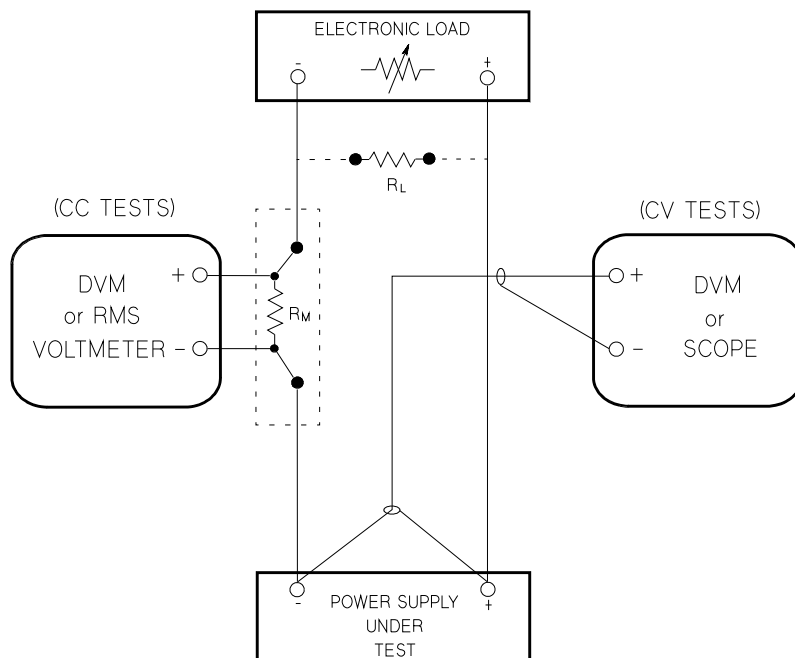

Figure 1-1 Performance verification test setup
To eliminate output current measurement error caused by the voltage drops in the leads and connections, connect the current monitoring resistor between the (–) output terminal and the load as a four-terminal device. Connect the current-monitoring leads inside the load-lead connections directly at the monitoring points on the resistor element (see R_M in Figure 1-1).
- 1 Turn off the power supply and connect a digital voltmeter between the (+) and (–) terminals of the output to be tested as shown in Figure 1-1.
- 1 Turn off the power supply and connect a digital voltmeter between the (+) and (-) terminals of the output to be tested as shown in Figure 1-1.
- 1** Turn off the power supply and connect the output to be tested as shown in Figure 1-1 to an oscilloscope (AC coupled) between (+) and (–) terminals. Set the oscilloscope to AC mode and bandwidth limit to 20 MHz. Connect a resistive load (7.5 Ω) as shown in Figure 1-1.
- 1** Turn off the power supply and connect the output to be tested as shown in Figure 1-1 with an oscilloscope. Operate the electronic load in constant current mode.
- 1 Turn off the power supply and connect the output to be tested as shown in Figure 1-1 with the digital voltmeter connected across the 0.01 Ω current monitoring resistor (R_M).
- 1** Turn off the power supply and connect the output to be tested as shown in Figure 1-1 with the digital voltmeter connected across the current monitoring resistor (R_M).